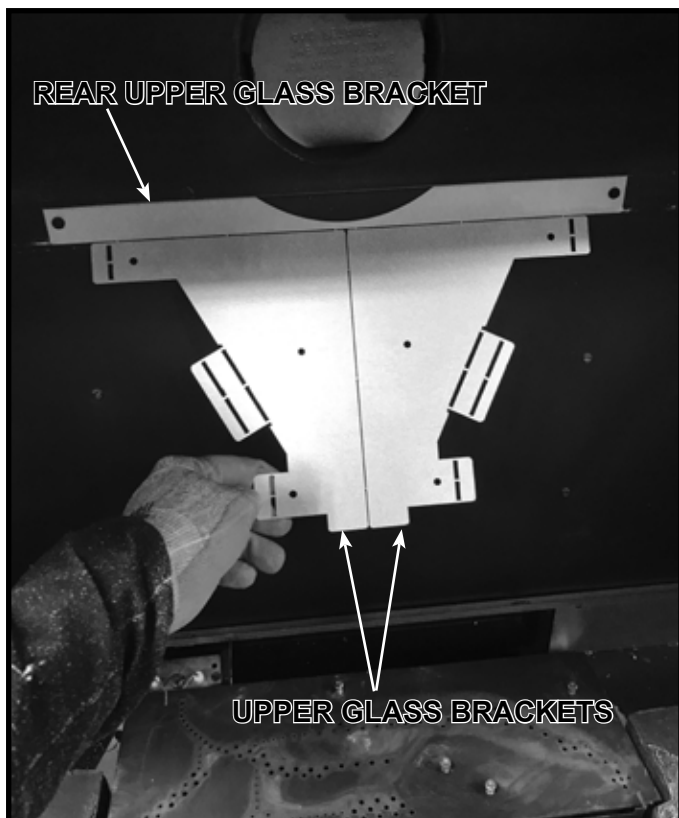
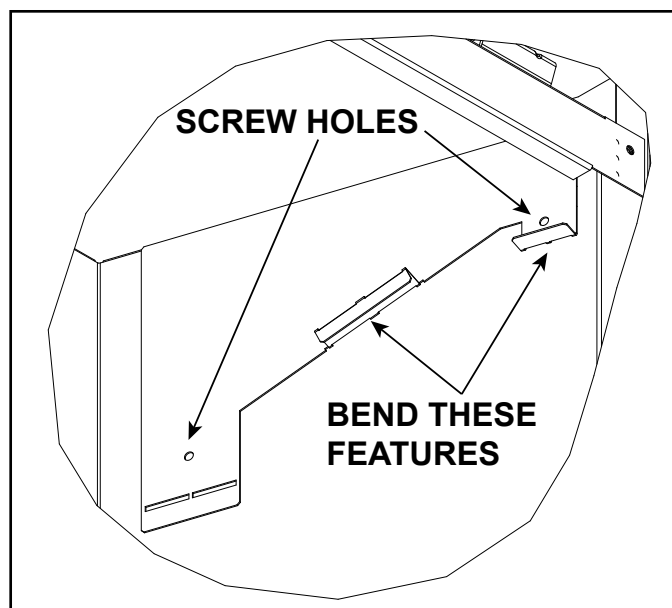
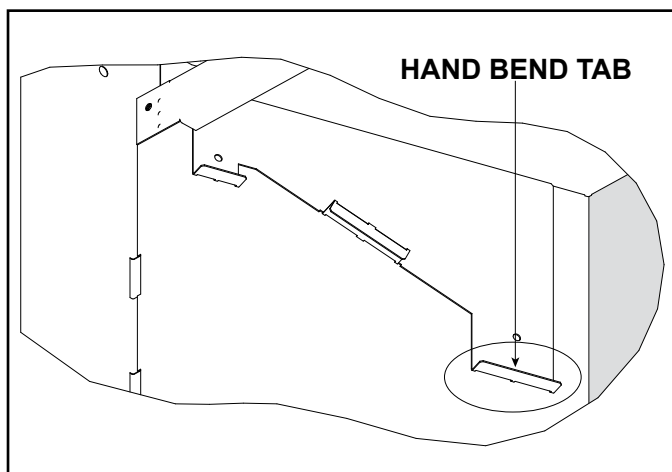

Figure 11.11 Remove Upper Glass Brackets
Figure 11.13 Bend Upper Glass Brackets
Figure 11.14 Upper Glass Brackets Installed (Left Upper Bracket Shown)
3. Remove the upper glass brackets from the back of the firebox by pulling forward on the bottom edge to break them free. Then separate them by breaking them apart. See Figure 11.11 and 11.12. Bend the "Right" bracket as shown in Figure 11.13. Bend the "Left" bracket shown in Figure 11.14.
4. Install right upper glass bracket by pushing the bracket “up” to the firebox top and “out” to the front face of the firebox. The front edge of the bracket should be tight to the firebox face and the top edge of the bracket should be tight to the firebox top. Install the bracket by inserting the two self-tapping screws through the bracket into the firebox. See Figure 11.13. Repeat this step for left upper glass bracket installation.
6. With one hand on the rear glass panel, bend “up” one hand bend tab on the upper glass bracket to approximately 90 degrees. See Figure 11.14. Bend “up” the hand bend tab on the opposing bracket. The rear glass panel is now installed. This panel will be held in place by the side panels once they are installed.